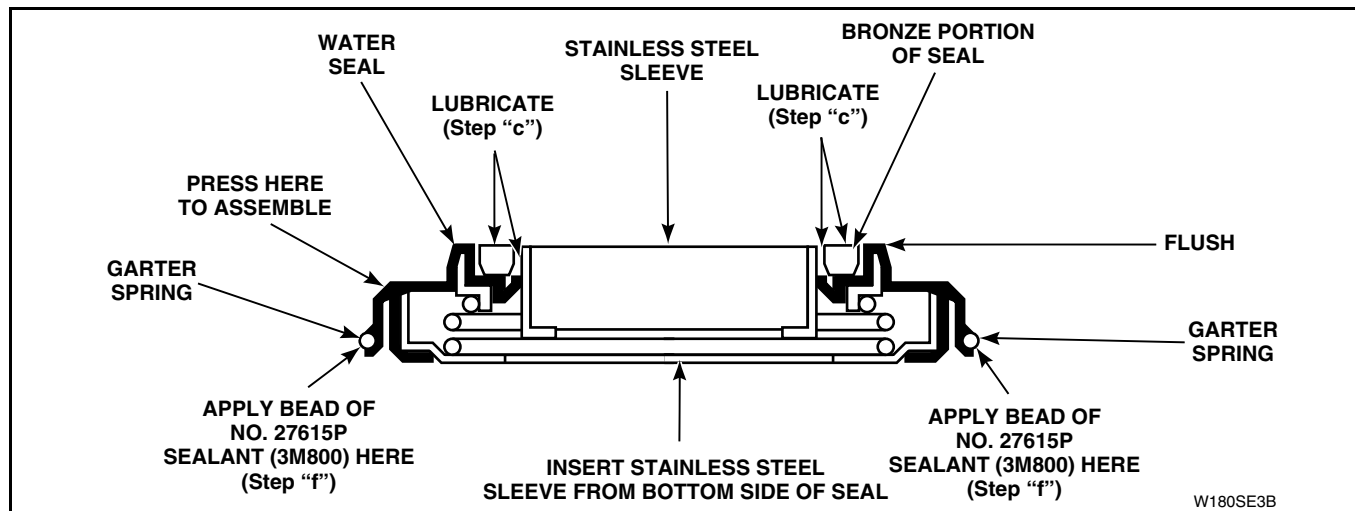

Figure 52
- c. Apply a light film of nonstaining petroleum jelly (such as Vaseline®) to bronze portion of water seal and to outer surface of stainless steel sleeve. Refer to *Figure 52*.
- d. Insert stainless steel sleeve into water seal from bottom of water seal, until stainless steel sleeve is flush with bronze portion of water seal. Refer to *Figure 52*.
- f. Carefully apply a small amount of No. 27615P Sealant (3M800) around outer edge of water seal and tub (area located just below garter spring). Refer to *Figure 52*. Obtain sealant from local parts distributor.